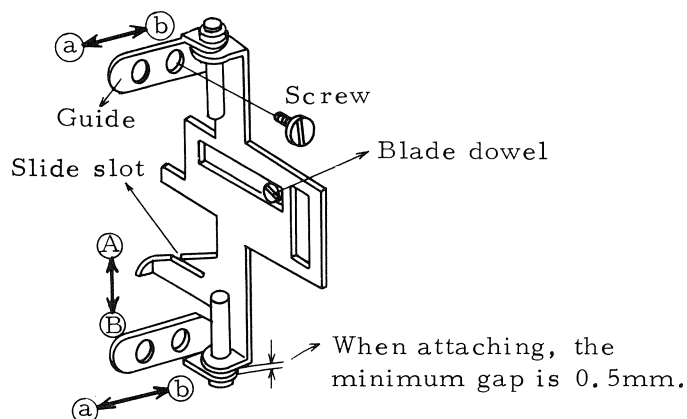

Fig. 6
The claw can be removed by removing the screw after removing the mechanism plate. (Fig. 6)
(Note) The claw can be easily removed if the blade dowel is set in the position shown in the above diagram. (Fig. 6)
1. Set the feeding claw temporarily. (Refer to Fig. 6)
Adjustments are made by using the slide slot, shown in the diagram under "Removing Method", and bending the claw in the direction of arrow (A) or (B). (Fig. 6)
Adjustment for the protrusion length is performed by changing the attachment position of the guide, shown in Fig. 6 under "Removing Method", in the direction of arrows (a) or (b).